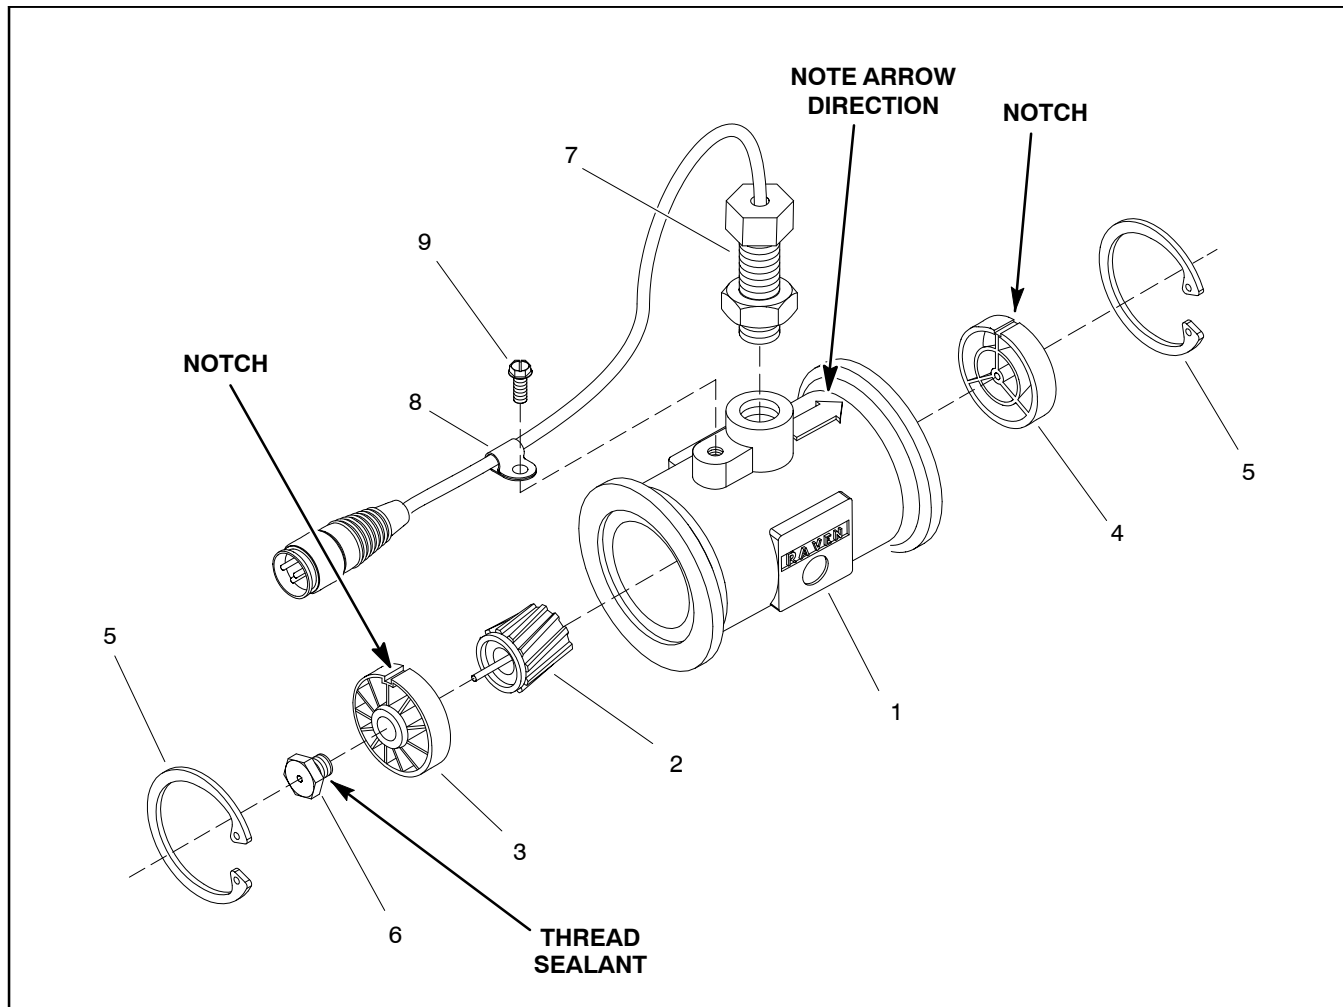

Figure 26.1
Removal and Inspection (Fig. 26.1)
2. Disassemble flowmeter as required using Figures 26.1 and 26.3 as guides.
3. Clean rotor (item 2), both hubs (items 3 and 4) and flowmeter body to remove any metal filings, spray chemicals or other materials.
Assembly (Fig. 26.1)
1. Assemble flowmeter using Figures 26.1 and 26.3 as guides. Check the following items during flowmeter assembly.
A. If turbine stud (item 6) was removed from upstream hub, apply thread sealant to threads of stud before installation.
C. When installing hubs (items 3 and 4) into housing, make sure to align locating notch on each hub with boss in housing bore.
D. If sensor (item 7) was removed from flowmeter body, thread sensor into housing so that it lightly bottoms in the housing. Secure sensor in position by tightening jam nut.